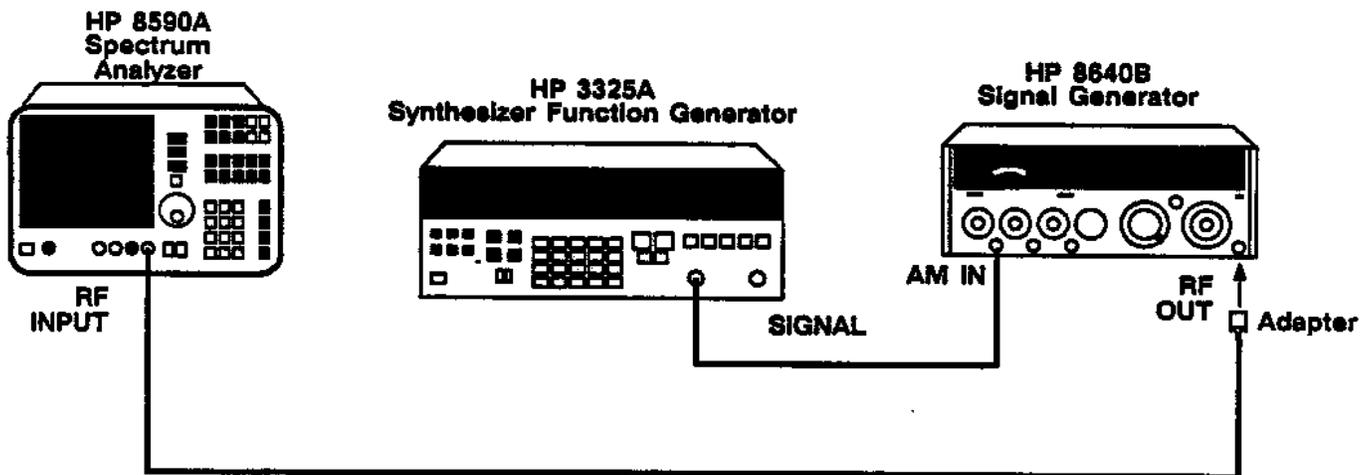

Figure 1-1. Sweep Time Accuracy Setup
4. Connect the equipment as shown in Figure 1-1. If your analyzer has Option 001 (75-ohm RF input), connect the 75-ohm side of the minimum loss adapter to the 75-ohm cable, connect the other end of the 75-ohm cable to the RF input of analyzer, and connect the 50-ohm cable from the signal generator to the 50-ohm side of the minimum loss adapter.